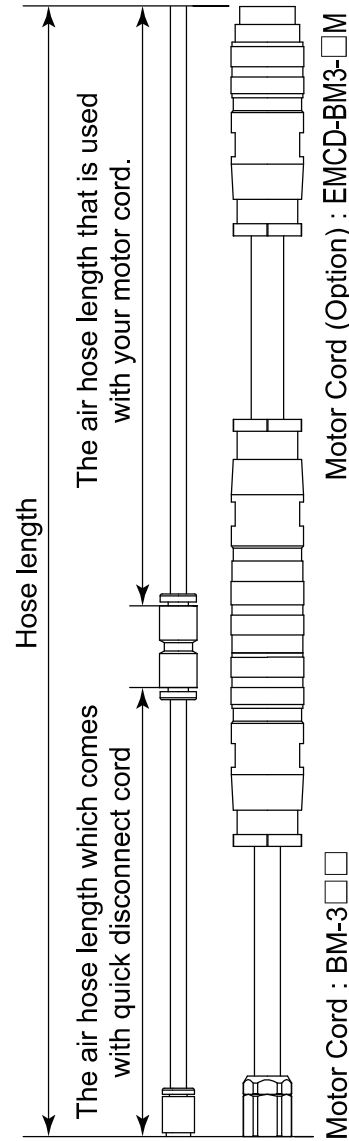

Fig. 28
*Note 1 : "Hose Length" indicates total hose length consisting of the Quick Disconnect Hose and the Motor Cord Hose. See Fig.28 to see how to calculate "Hose Length".